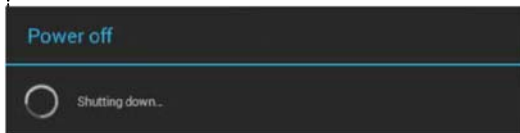

FIG. 126 Firmware Update - reboot and complete firmware update
7. After copying the firmware package to the staging location, the panel will reboot and complete the firmware installation process (FIG. 126):